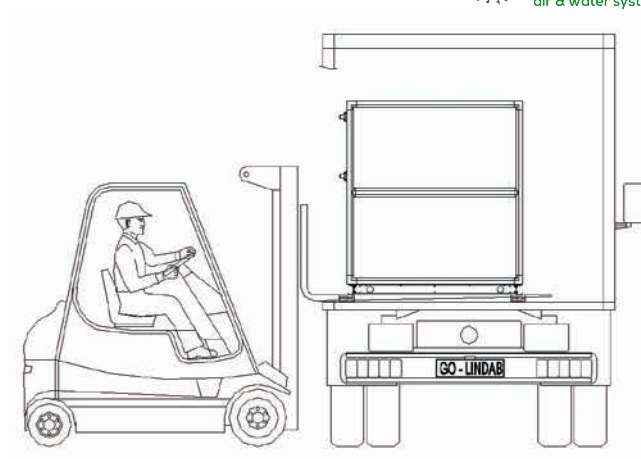

Figure 1
- When loading and unloading with fork lift always transport units on the wooden beams or on the pallet – Figure 1.